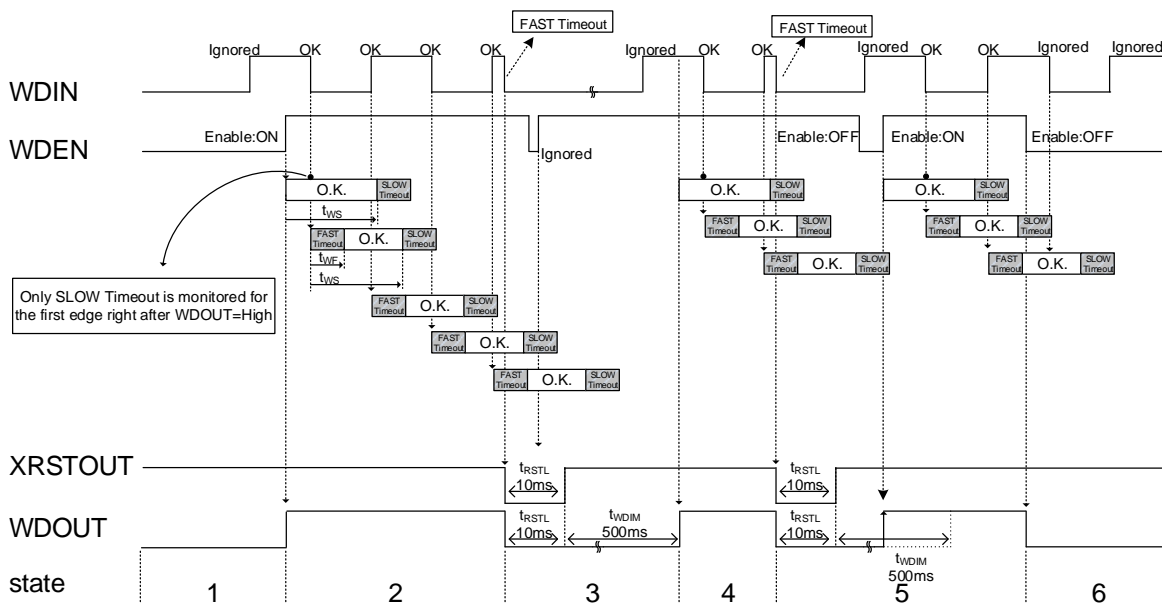
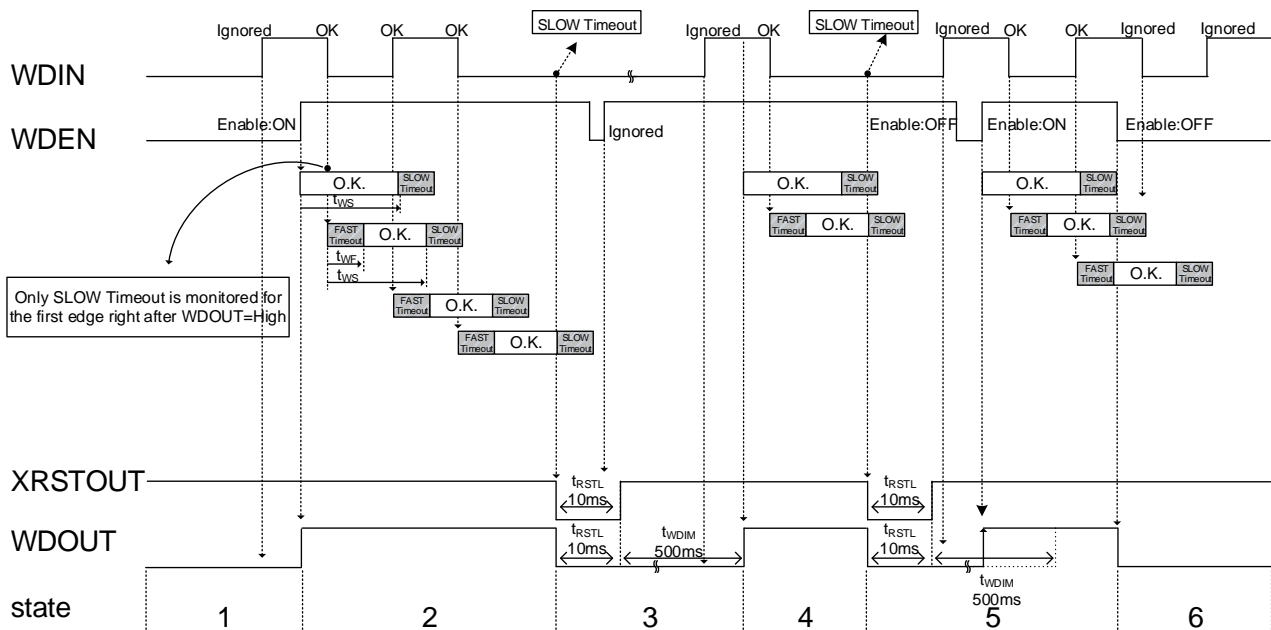

Figure 2. WDT FAST Timeout Detection
Figure 3. WDT SLOW Timeout Detection
Sequence for FAST Timeout and SLOW Timeout are shown in Figure 2 and Figure 3.
3. These time detection monitors the time until next edge and when it detects WDIN edge within FAST Timeout (t_{WF}), XRSTOUT and WDOUT becomes Low. XRSTOUT goes back to High after 10 ms (Typ) delay, while WDOUT goes back to High after t_{WDIM} (500 ms: Typ) in addition to t_{RSTL} (10 ms: Typ) as long as WDEN=High. t_{WDIM} is implemented as a time for microprocessor to be reset normally and stabilized. If this time is unnecessary and WDT should be activated as soon as possible, WDEN may be controlled like state 5 in the Figure 2.
5. When WDOUT becomes High, WDT is activated again and operation resumes. Only SLOW Timeout detection works until the next first edge, and both SLOW Timeout and FAST Timeout starts at the first edge like state 1 in Figure 2.
6. If this time is unnecessary and WDT should be activated as soon as possible, WDEN may be controlled like in Figure 2. t_{WDIM} is canceled by toggling WDEN like High->Low->High and WDT is activated immediately even during t_{WDIM} . After WDT is enabled it works as same as state 2 in Figure 2.
3. These time detection monitors the time until next edge and when it can not detect WDIN edge within SLOW Timeout (t_{WS}), XRSTOUT and WDOUT becomes Low. XRSTOUT goes back to High after 10 ms (Typ) delay, while WDOUT goes back to High after t_{WDIM} (500 ms: Typ) in addition to t_{RSTL} (10 ms: Typ) as long as WDEN=High. t_{WDIM} is implemented as a time for microprocessor to be reset normally and stabilized. If this time is unnecessary and WDT should be activated as soon as possible, WDEN may be controlled like state 5 in the Figure 3.
4. When WDOUT becomes High, WDT is activated again and operation resumes. Only SLOW Timeout detection works until the next first edge, and both SLOW Timeout and FAST Timeout starts at the first edge like state 1 in Figure 3.
5. If this time is unnecessary and WDT should be activated as soon as possible, WDEN may be controlled like the Figure 3. t_{WDIM} is canceled by toggling WDEN like High->Low->High and WDT is activated immediately even during t_{WDIM} . After WDT is enabled it works as same as state 2 in Figure3.